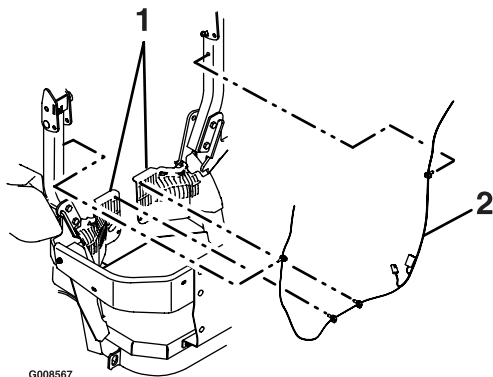

Figure 4
2. Route harness up the lower right ROPS tube and push the harness clip into the hole as shown in Figure 4. Install the remaining harness clip inside the light mounting plate. Repeat for the left side.